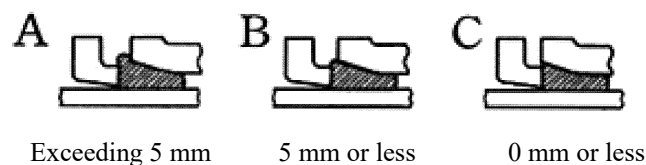

Figure 23 Incoming/outgoing state of rubber gasket
(3) Checking the incoming/outgoing state of rubber gasket
- ① As illustrated in Figure 23, check the incoming/outgoing state with reference to the socket end face of the rubber gasket at four locations. Make sure that there is no simultaneous presence of the states A and C or A, B and C on one and the same circumference.
- ② If there is a simultaneous presence of the states A and C or A, B and C in the incoming/outgoing state of the rubber gasket in the above description, disassemble the joint and then make the parts joined again.